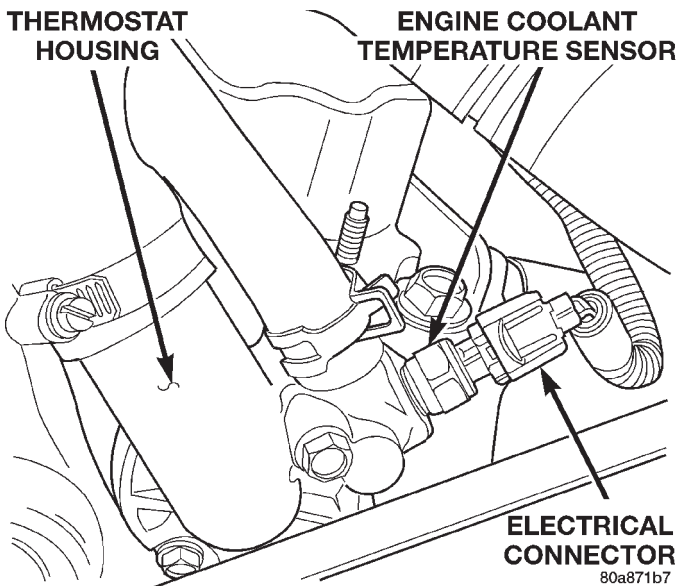

Fig. 56 Engine Coolant Temperature Sensor—4.0L Engine
(1) Disconnect wire harness connector from coolant temperature sensor (Fig. 56).
(2) Test the resistance of sensor with a high input impedance (digital) volt-ohmmeter. Refer to SENSOR RESISTANCE (OHMS)—COOLANT TEMPERA-